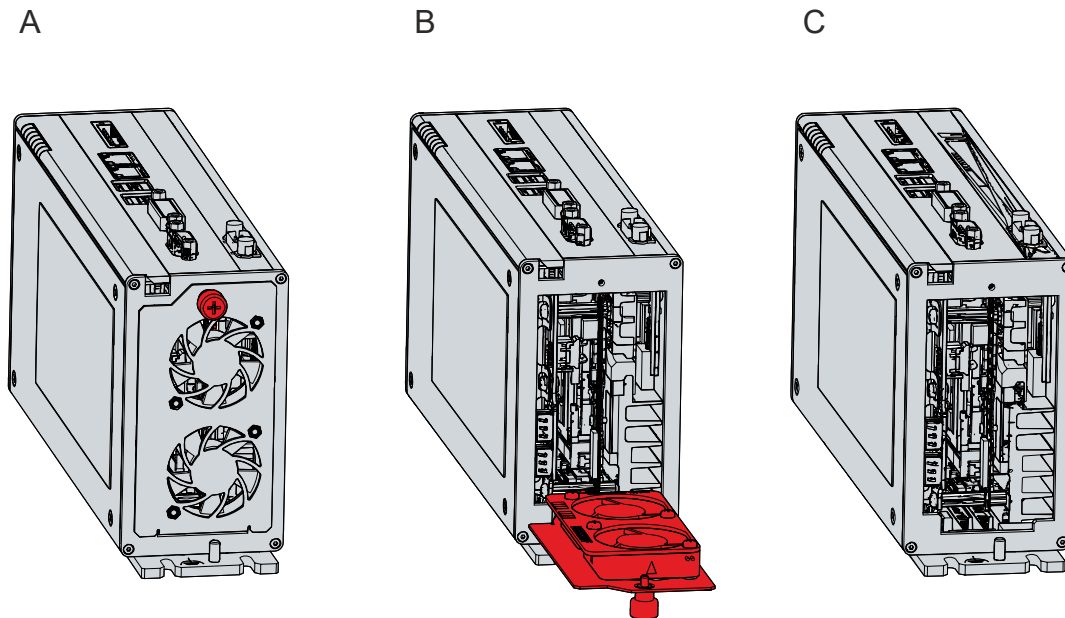

Fig. 27: Fan cartridge replacement
1. Remove the SSD from the PC by pulling forcefully on the protruding Beckhoff sticker (see fig. 27).
To replace the fan cartridge, follow the steps below as shown in Figure 27: